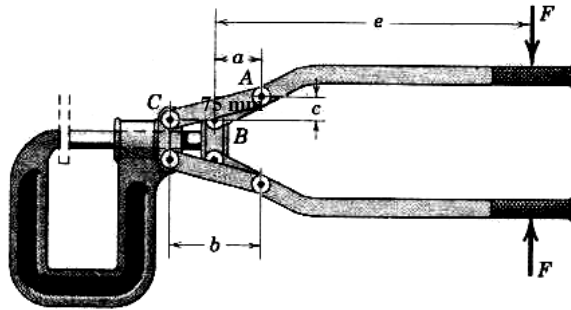

Figure 7
- Determine the force  $P$  developed at the jaws of the rivet squeezer in Figure 7.